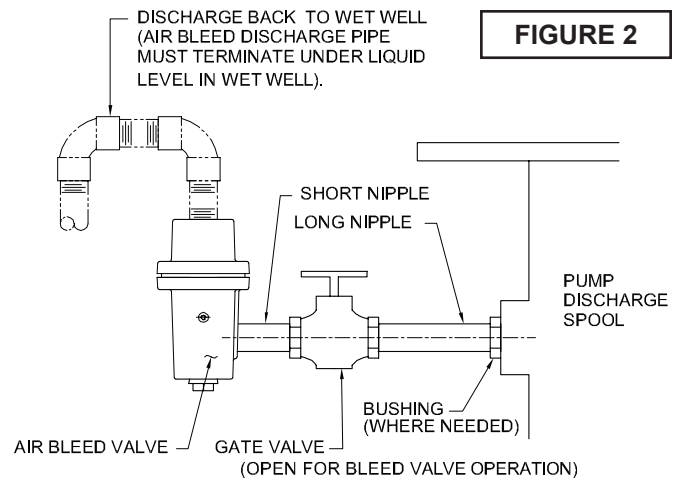

FIGURE 2
1. The air bleed line (item 12 & 13) should be 3/4 inch on 3 inch pumps, one inch on 4 and 6 inch pumps in order to reduce the priming time to a minimum. This is mandatory on force main installations.
3. An optional air-bleed valve may be placed in this line, but it is not necessary, See Figure 2. A clear plastic line is excellent, allowing the operator to detect any clogging.
4. There are two ways (item 12) & (item 13) of returning this line to the pit: (a) The line discharging above the liquid level (item 12). (b) The line discharging below the low liquid level (item 13). The (a) condition is generally accepted, but has the disadvantage of losing its prime if the suction check valve is held open by debris. This is generally no problem at higher speeds (1600 rpm or higher).